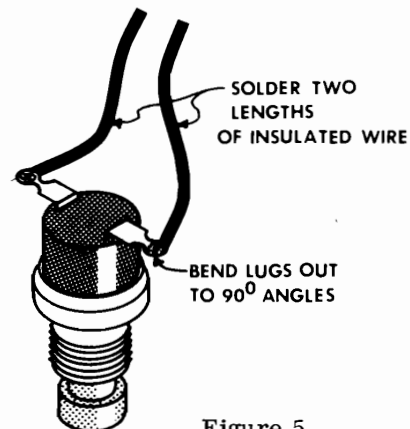

Figure 5
- () Locate the RESET push-button (S1) and prepare it for installation by using a pair of needle-nose pliers to carefully bend its two solder lugs out to 90° angles as shown in detail figure 5.